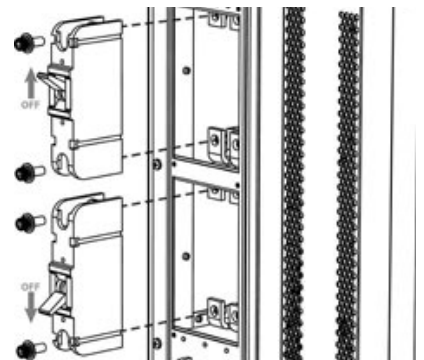

Figure 30. Install Breaker(s)
- Step 4.** To ensure correct breaker polarity, view the channel mapping label located on the breaker shield removed in Step 2 for correct LOAD/LINE breaker orientation. Secure breaker(s) into place by tightening the 3/8 in hardware (see Figure 30).